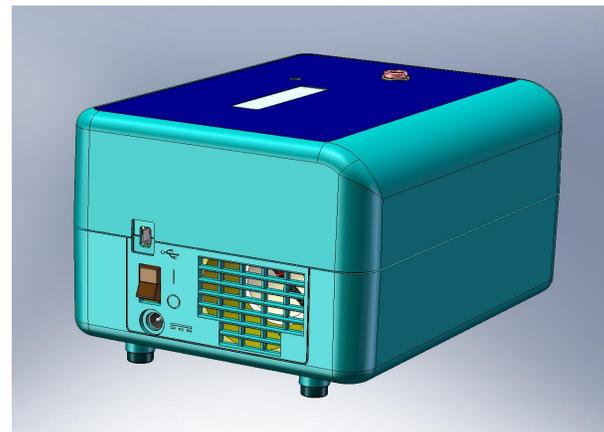

Figure 5 Side view of Vernier Mini GC
- a. Turn on the Mini GC, using its on-off switch on the left side (see Figure 5).
Figure 5 shows a side view of the Vernier Mini GC. The power input jack, power switch, USB connection to the computer or LabQuest, and column ventilation grill are shown in this view.